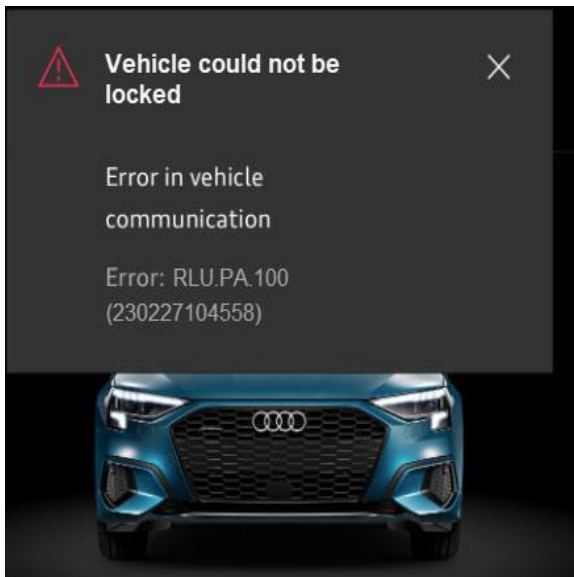

Figure 1: Message for IOS devices
- RLU.PA.100 (iOS - figure 1).